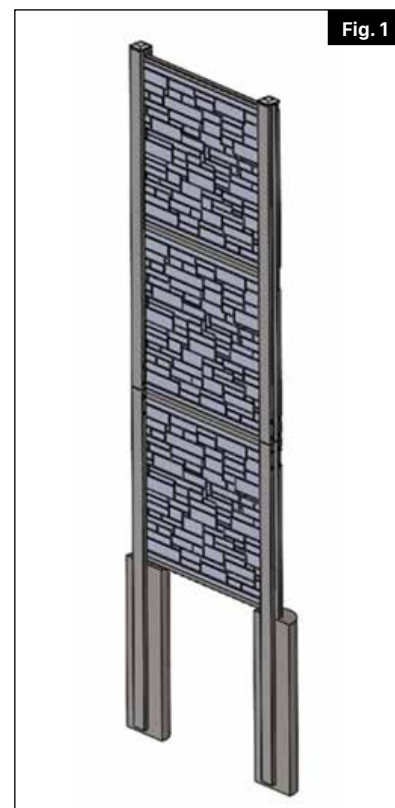

Fig. 1
- a. Attach bracket to post for bottom rail on both sides. Ensure bottom rail is level and attach rail to brackets (Fig. 1).